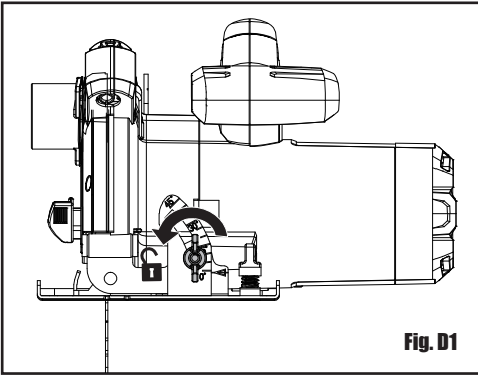

Fig. D1
2. ADJUSTING THE BEVEL ANGLE (SEE FIG. D1, D2)